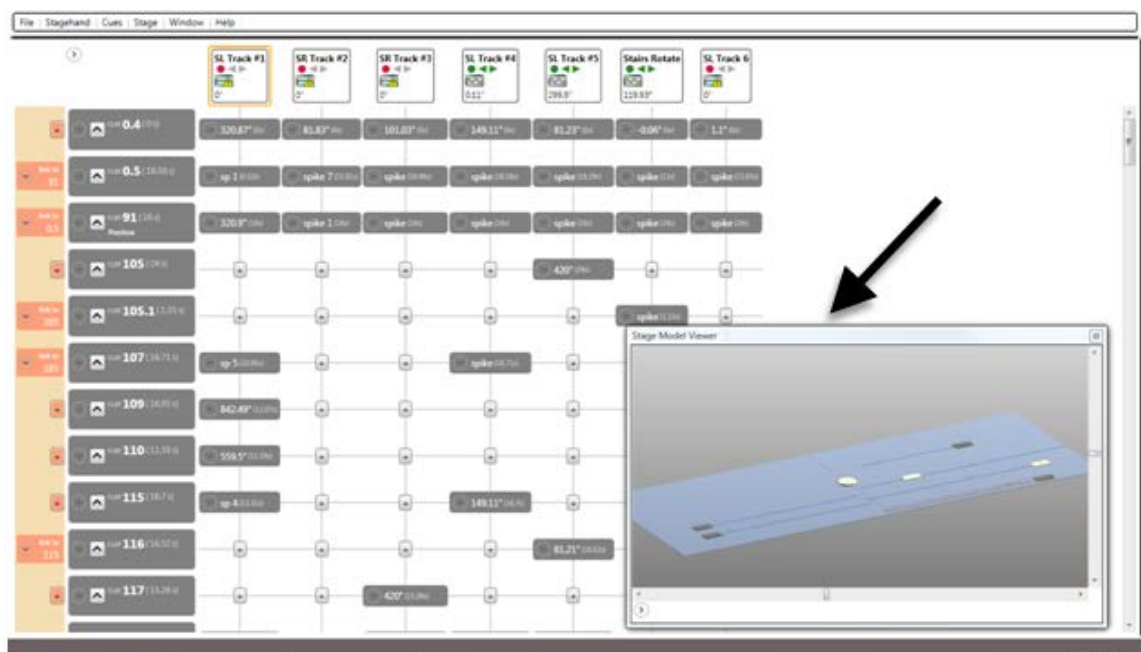

Figure 239
3. In **Window** menu, click **Stage Model Viewer** to create a floating **Stage Model Viewer**. Position the **Stage Model Viewer** in some unoccupied space of the **Cue Grid** (Figure 239) or drag it over to a second monitor.